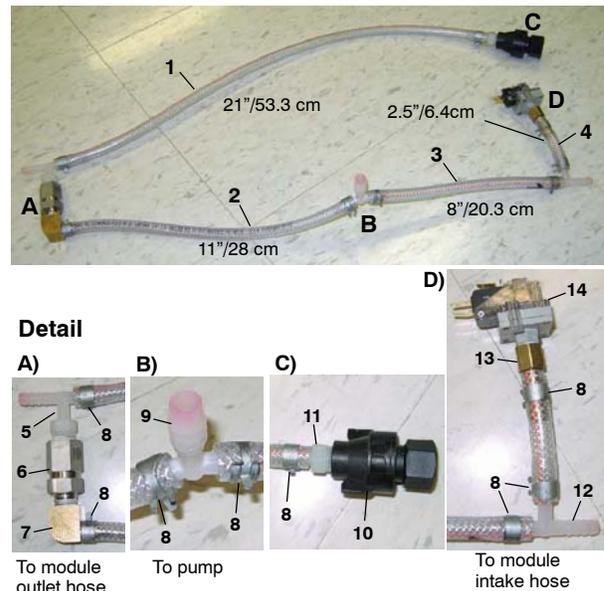

Fig. 40
- Cut the 4 ft braided hose [p/n 578227000] into the specified hose lengths as described (ref. 1, 2, 3 & 4), then assemble the following parts as shown (Figure 40). Use thread sealer tape on all fittings.
ec-H2O Solution Hose Assembly Parts List (Figure 40)